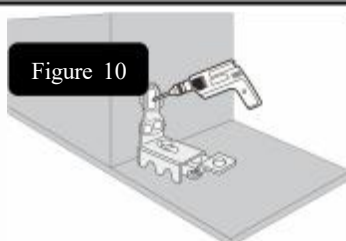

Figure 10
- **Step 2:** Pre-drill the marked places using 1/8" drill bit (Figure 10).